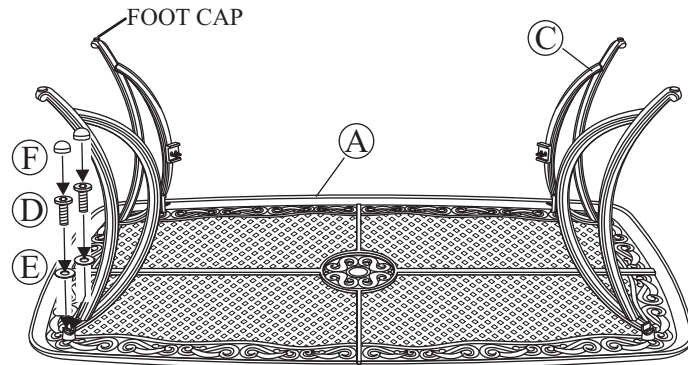

Fig.1
- 1 Place the table top upside down on a flat, non-abrasive surface. Attach a table leg to the table top by using the bolts and washers as shown in **Fig.1**. Guide bolts through holes in the table legs and into the pre-drilled holes in the table top. **Hand tighten 2-3 turns only**. Repeat for the other three legs.